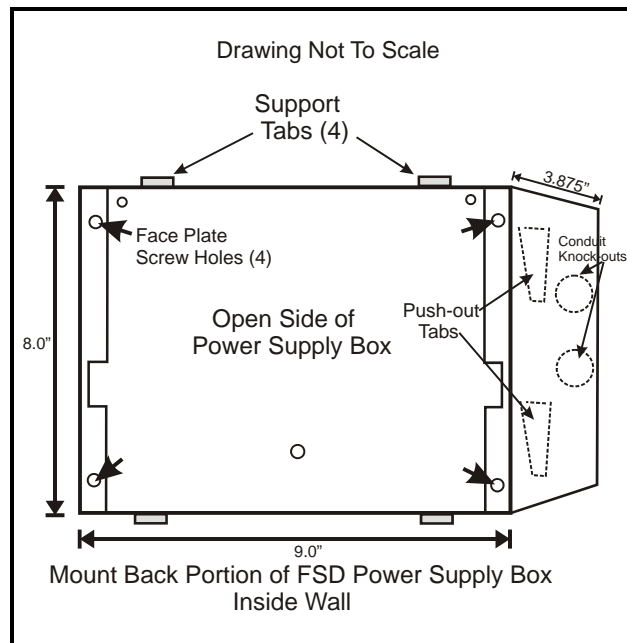

Figure 2-4 - Mounting The Power Supply Box
2. Once this hole is cut, mount the unit as desired (*Figure 2-4*), and position the enclosure so that the four **support tabs** are flush against the outside lip of the opening in the wall.